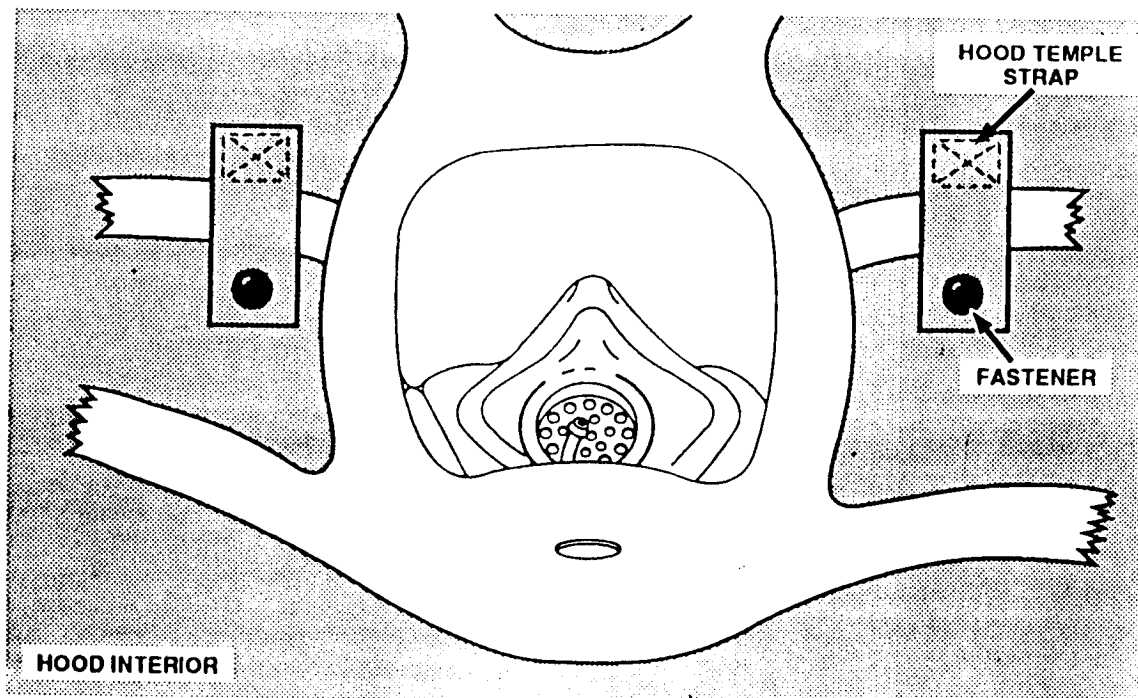

Figure 3-5. Attaching Hood to Mask for Ready Donning
- d. Unfasten underarm straps and hood temple straps (Figure 3-5).